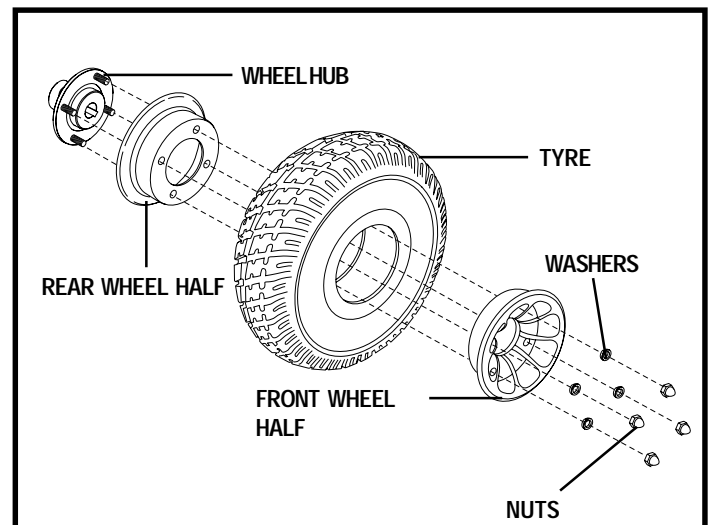

Figure 30. Jazzy 610 Drive Wheel
6. Remove the hardware that fastens the two wheel halves together. See figure 30.